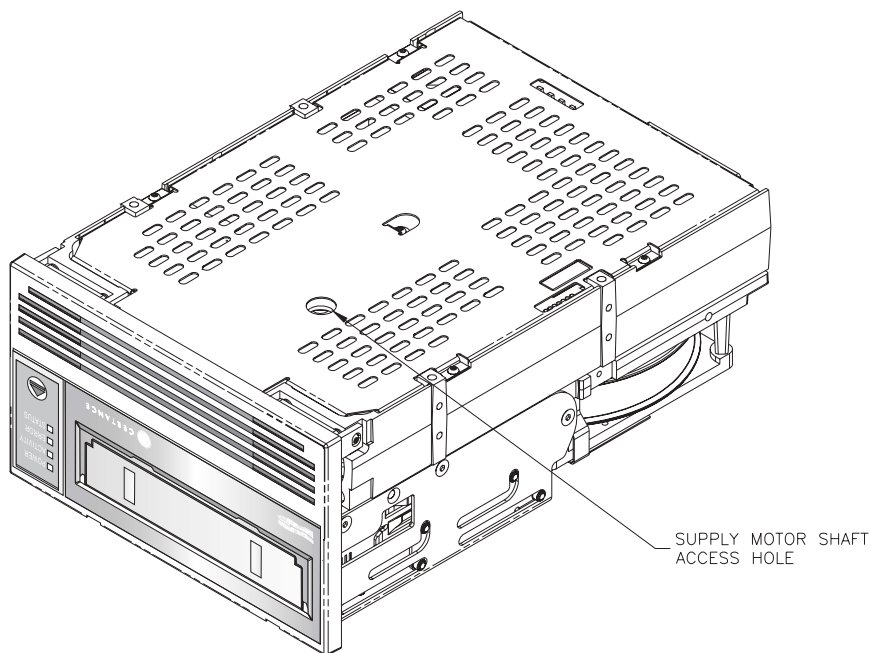

Figure 25. Underside of LTO-1 and LTO-2 Drives Showing Supply Motor Access Hole
4. Insert the 1.5-mm hex wrench through the hole in the bottom plate shown in Figure 25 on page 81. Turn the hex wrench clockwise slowly and smoothly to rewind the tape into the cartridge. This may take some time.